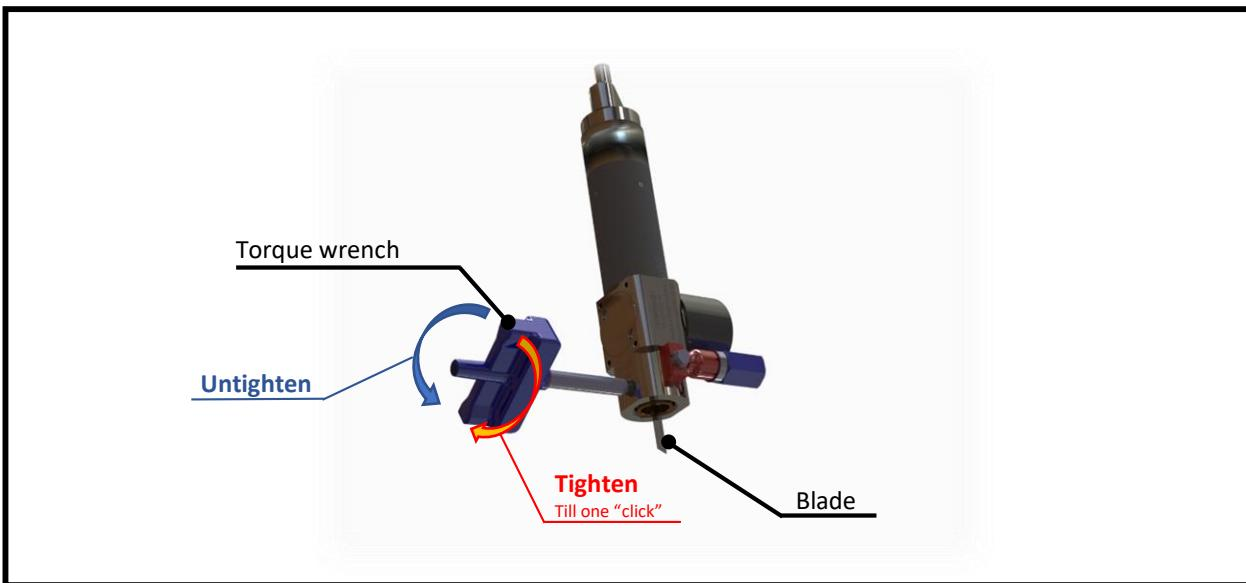

Figure 7: How to assemble / change a blade (exemplary presentation).
- Untighten the screw with the included torque wrench and the 3 mm Allen bit (**Figure 7**)
(Figure 7). Never touch the edge of the blade with your fingers. **Attention: Risk of injury!**